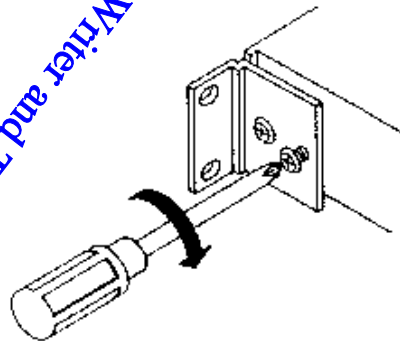

Figure 1: Rack-mounting the unit
- 3) a pair of brackets for mounting the model 200X into a standard 19-inch(483-mm)-wide equipment rack. (See Fig. 1.)